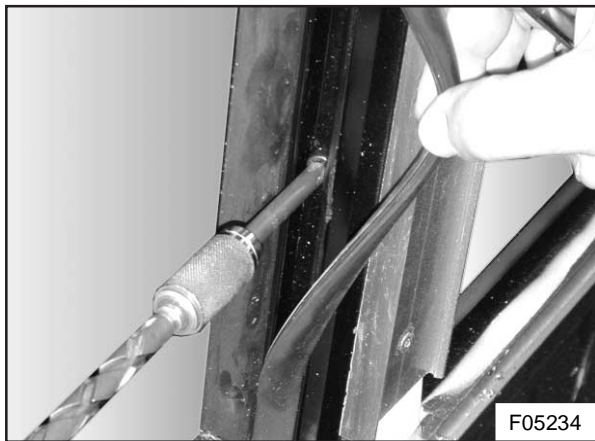

Figure 6 : Frame to post bolt
3. Partly remove the rubber window seal in the left- and right-hand corners of the window. Undo and remove the two bolts securing the window frame to the left- and right-hand posts (see Figure 6).